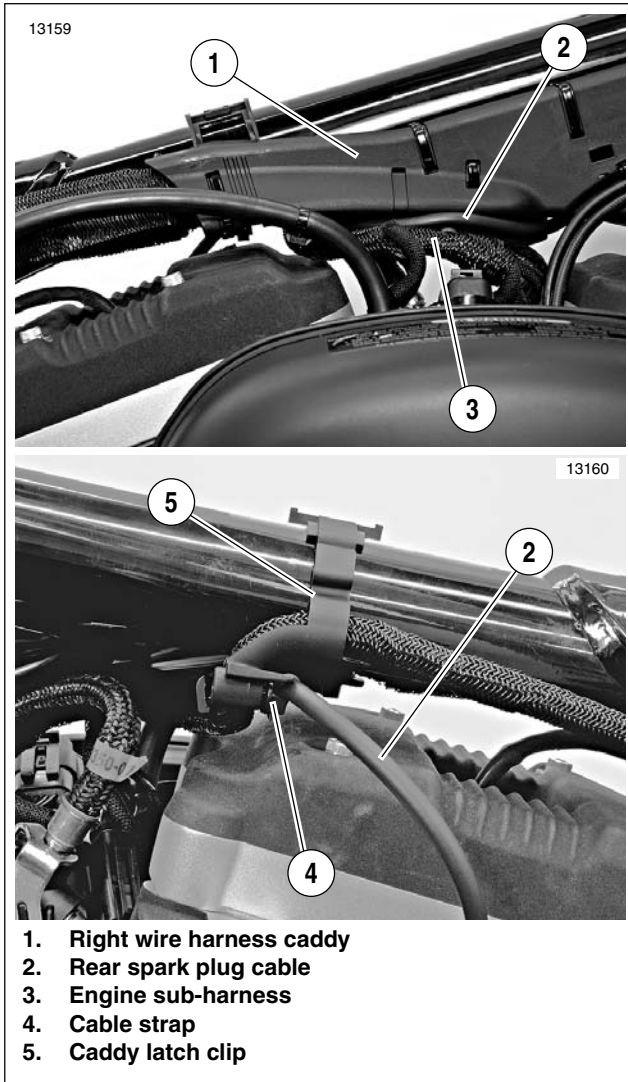

Figure 7-10. Rear Spark Plug Cable Routing
10. See Figure 7-10. Remove rear spark plug cable (2) from curved trough on wire harness caddy (1). Cut cable strap (4). Feed spark plug cable out from between frame and engine and remove cable from vehicle. Remove cable strap from mounting boss on caddy latch clip (5). Discard cable strap.
2. See Figure 7-10. Route rear spark plug cable (2) in trough in right wire harness caddy (1), over top of engine sub-harness (3) and back toward left side of engine.